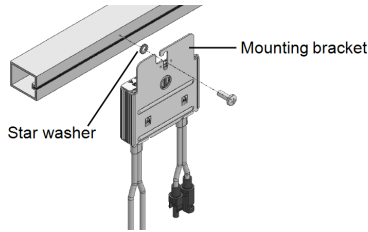

Figure 5: Power optimiser installation and grounding using a star washer
1. Determine the power optimiser mounting location and use the power optimiser mounting brackets to attach the power optimiser to the support structure (See Figure 5). It is recommended to mount the power optimiser in a location protected from direct sunlight. For frame-mounted power optimisers follow the instructions supplied with the optimisers, or refer to https://www.solaredge.com/sites/default/files/installing_frame_mounted_power_optimizers.pdf.
- **For mounting on a grounded metal rail:** Use the provided 5/16" stainless steel grounding star washer between the railing and the flat side of the mounting bracket. The grounding washer should break through the anodize coating of the railing to ensure low resistive connection. Apply torque of 9.5 N*m / 7 lb*ft. See Figure 5.